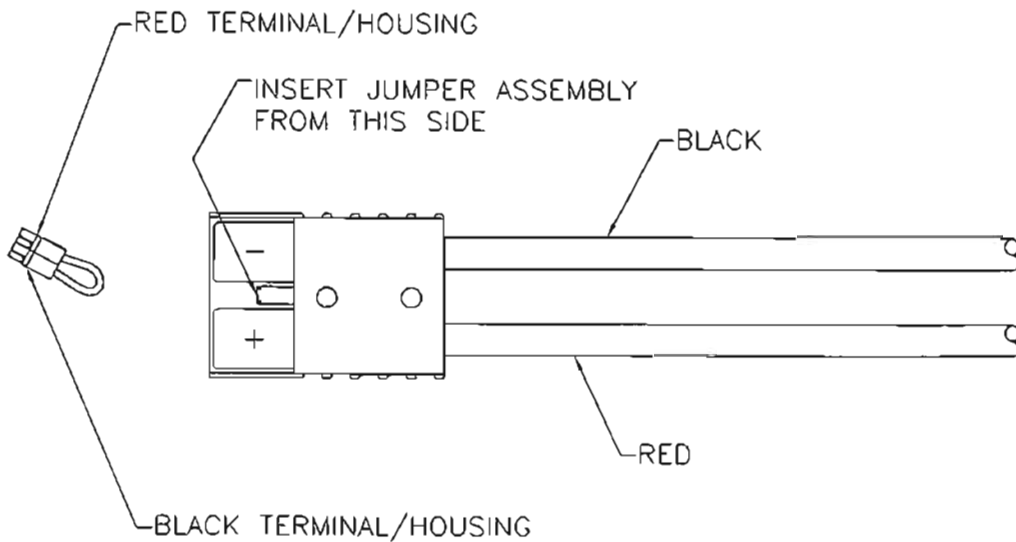

Fig. 4A
- Install the red and black auxiliary housings of the #18AWG Jumper into the SBX battery connector and secure with the pins supplied, as shown in Fig. 4A & 5.